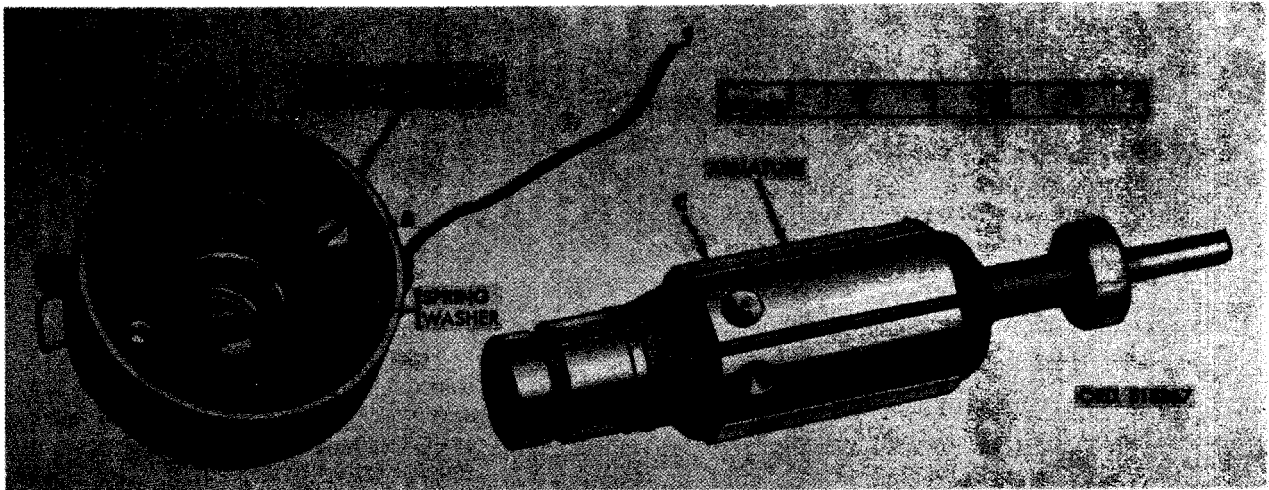

FIGURE 440. POSITIONING ARMATURE IN ELECTRICAL HOUSING.
- (1) Figure 440. (A) Install the same number of shims as were removed during disassembly (fig. 427). (B) Install the spring washer. (C) Position the armature in the electrical rotating housing, against spring washer.